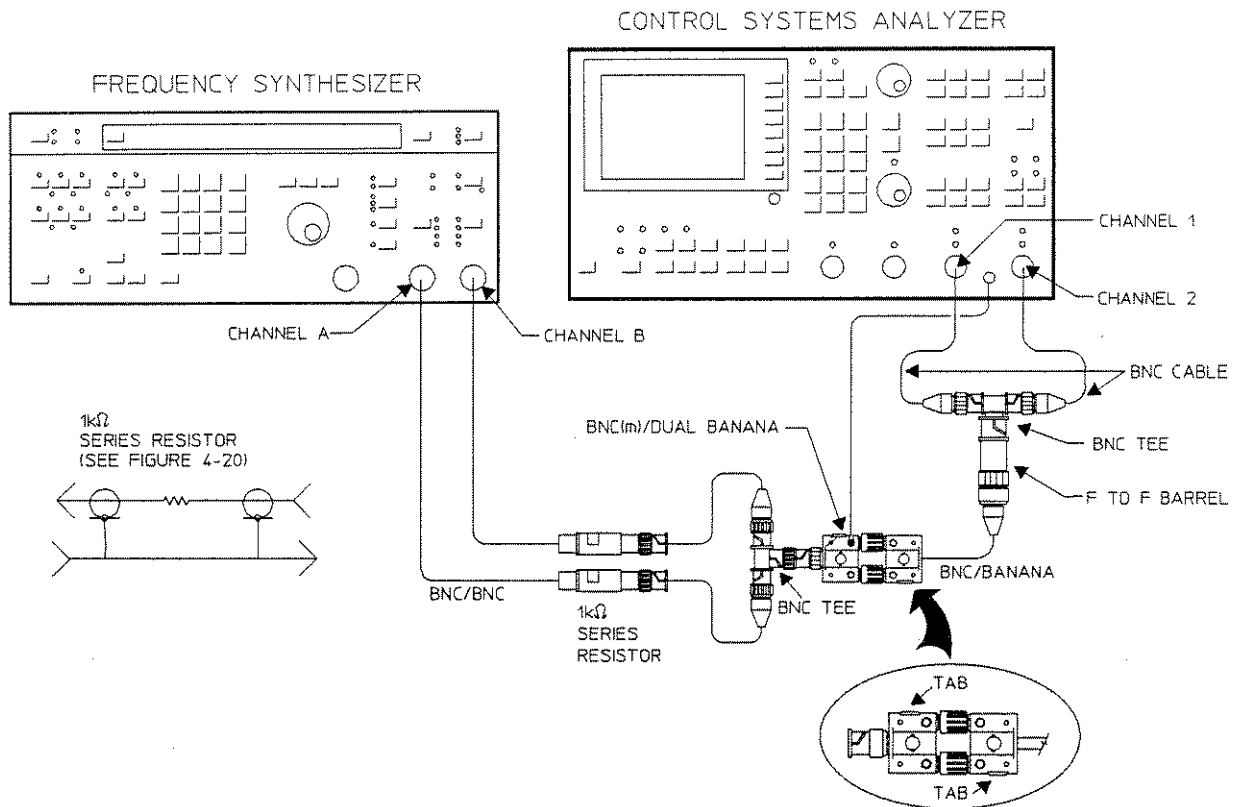

Figure 4-21. Intermodulation Distortion Test Two Setup
1. Connect the test instruments as shown in Figure 4-21, so the center conductor of each channel's BNC is grounded.
13. Connect the test instruments as shown in Figure 4-21 so the center conductor of each channel's BNC is grounded.